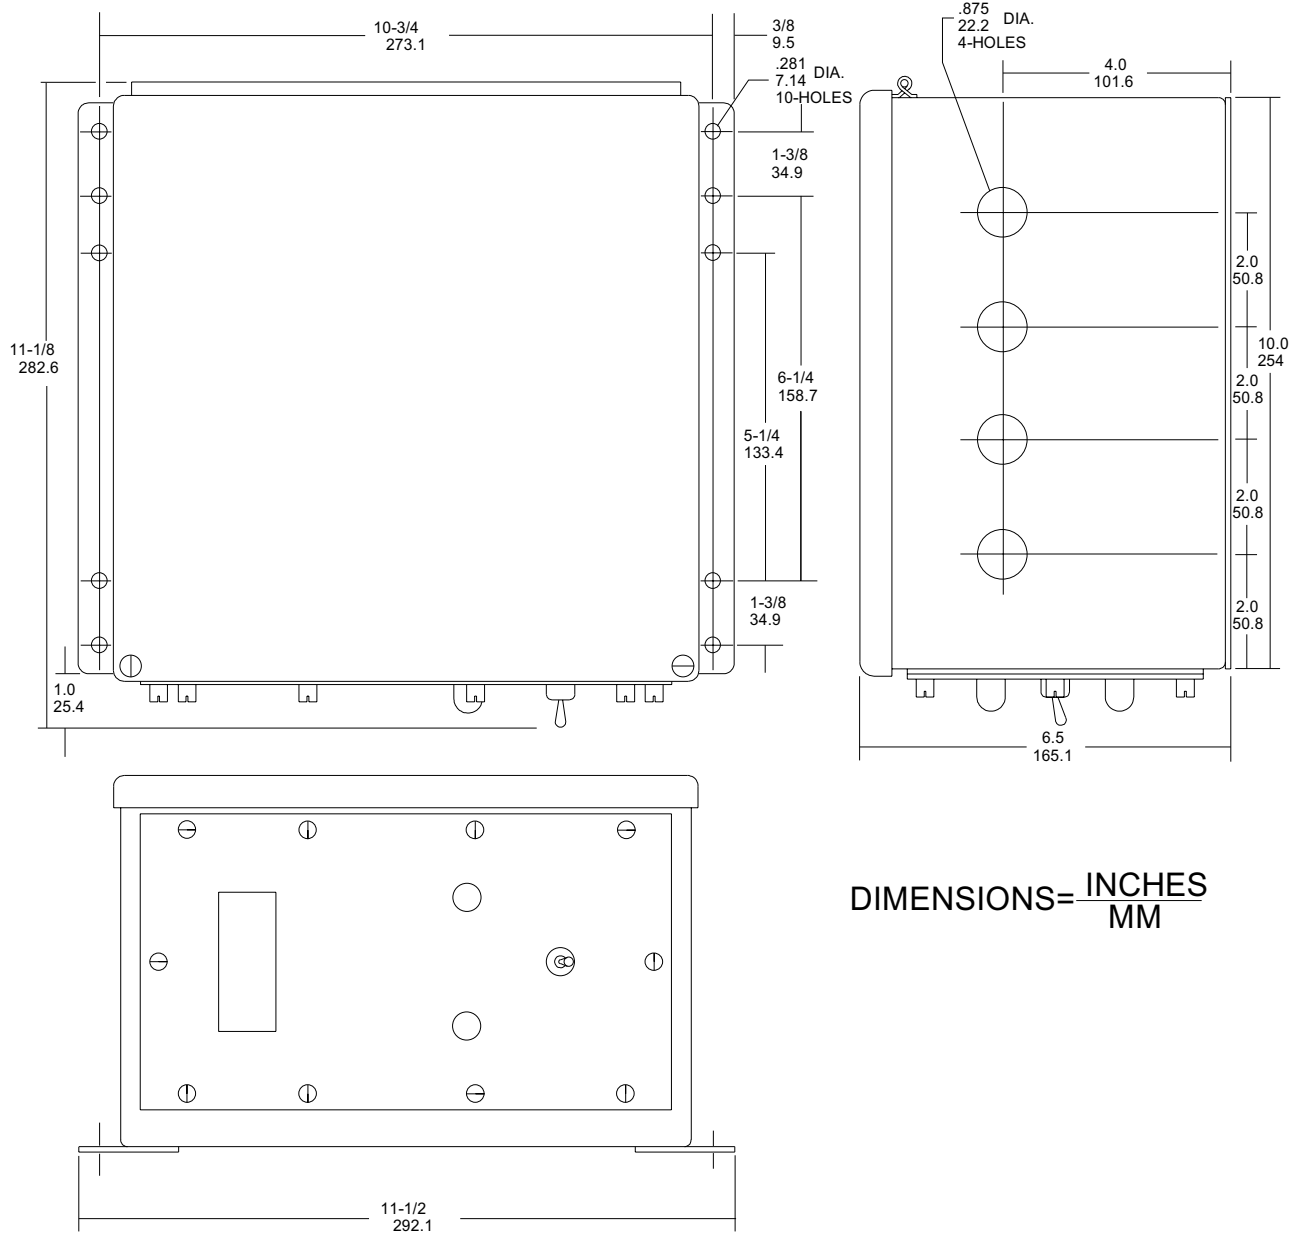

**Figure 6**
4. Unplug the voltage plug from the socket, Item C, Figure 6.
10. Remove Dummy Test Plug and reinstall Amplifier P.C. Board and replace Front Panel Harness Plug in socket Item C, Figure 6.